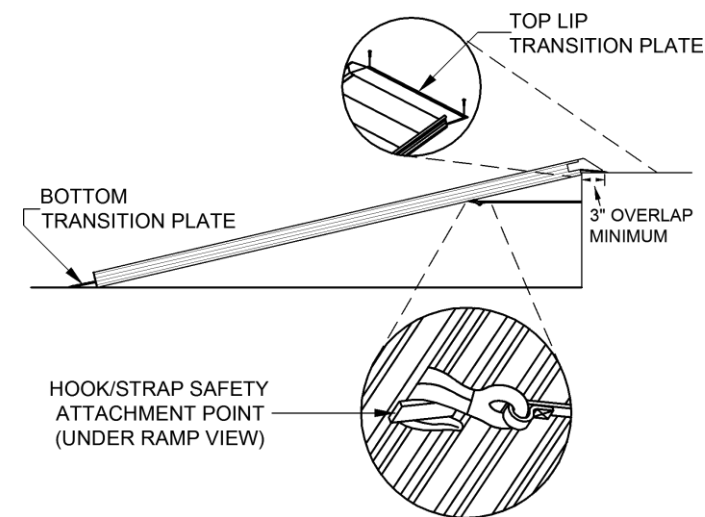

FIG. 1
4. Ramp is equipped with a safety attachment point underneath the upper portion of ramp as a method of securing ramp when in use (FIG. 1). Use a strap, chain, or rope (not supplied) to attach the ramp to a vehicle or other structure when in use to prevent the top lip transition plate from slipping off the supporting surface.
5. In addition to the safety attachment point, secure top lip transition plate of ramp to supporting surface with clevis pins (or similar fasteners - not supplied) to prevent top lip transition plate from slipping when in use. Drill two 1/4" diameter holes through the top lip transition plate into supporting surface to a depth of 1" (minimum). Secure top lip transition plate by placing two 1/4" x 1" clevis pins through the drilled holes and into the supporting surface (FIG. 1).
- ⚠ Do not use ramp if less than 3" of top lip transition plate is overlapping support surface (FIG. 1).